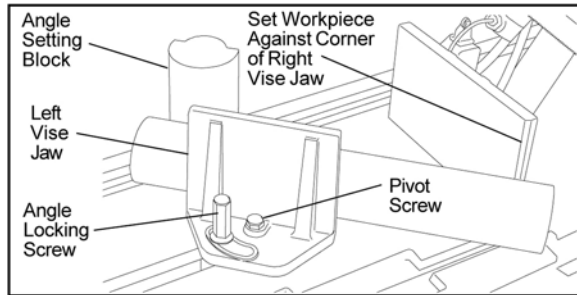

Figure 6: Adjusting vise
1. Referring to Figure 6, loosen the angle locking screw and the pivot screw on the left vise jaw.